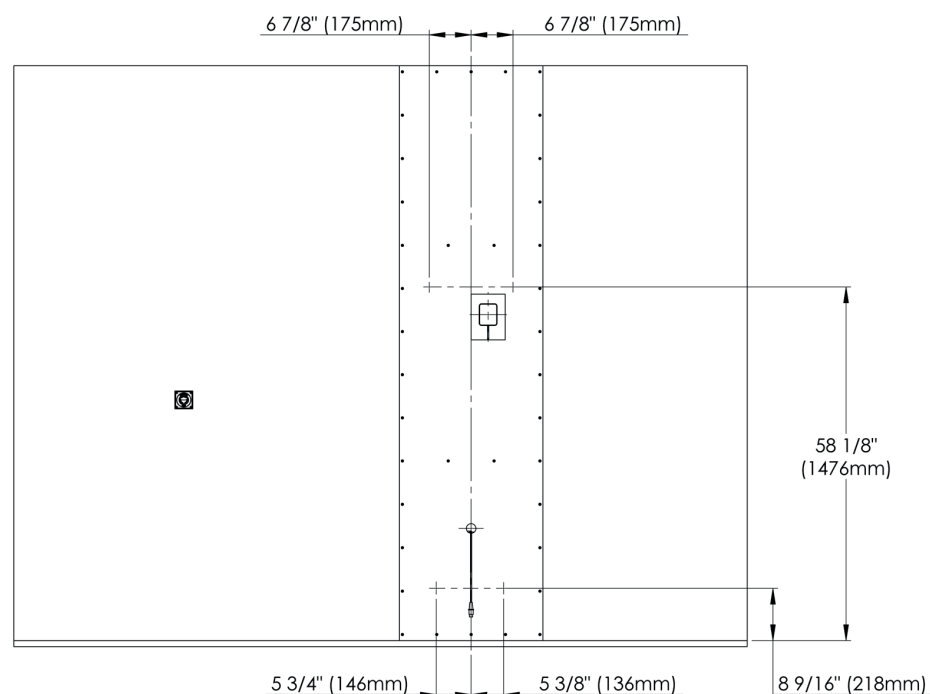

Fig 11.3 Fixing points of SBU
- The finished pre-installation should appear like Fig 11.3.